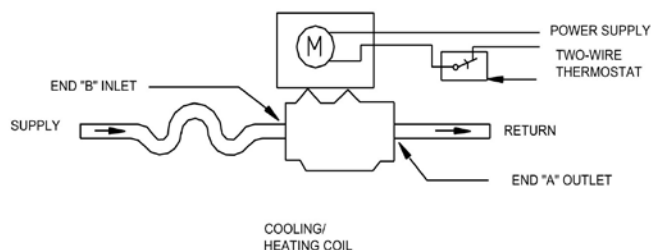

Fig. 1 Two-way valve
**Normal-closed** 2-way and diverting 3-way valve are installed as Figure 1, 2 and 3. For high building, pressure-reducing valve should be installed on branch pipe at ground floor.